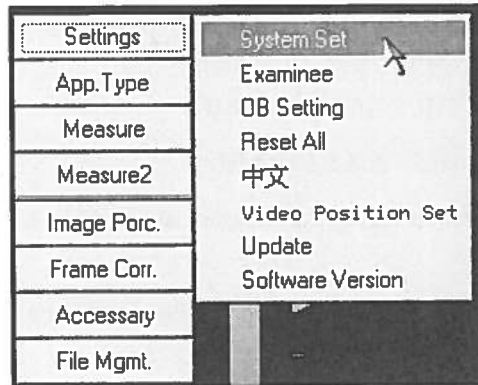

Fig.4-1
- Select "Settings"- "System Set" to open system setting dialog box, see Fig.4-1, Fig.4-2.